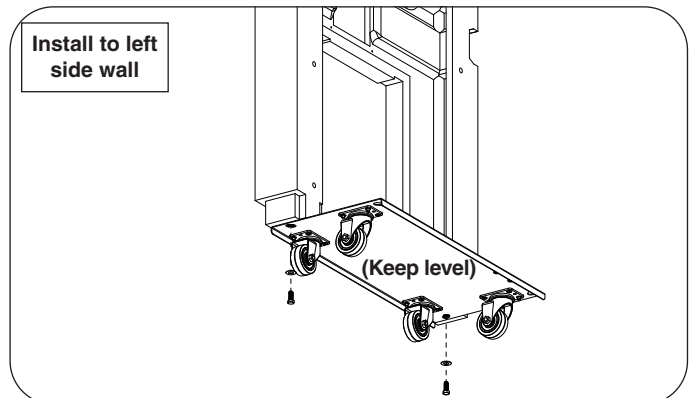

Fig. 2-2 Install left wheel assembly to bottom of left side wall
1. Align the left wheel assembly onto the left side wall and fasten using the included hardware and a $\frac{9}{16}$ " open-end wrench or equivalent. Hand tighten only. See Fig. 2-2.